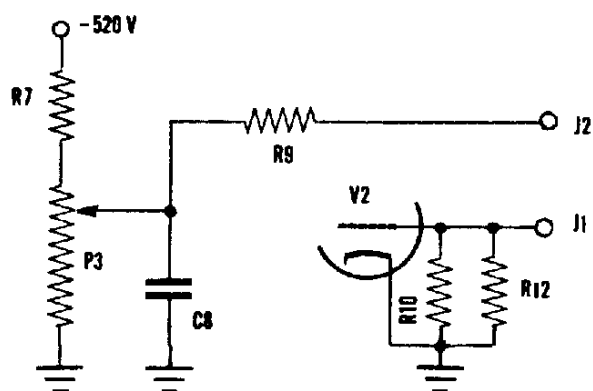

Fig. 7
- Fig. 7. Leakage check circuit in "PAPER-MICA TEST" position. R9 slows down charging process so that electron-ray tube action will not be too fast for detection by the operator.
- Fig. 8. Leakage check circuit in "ELECTROLYTIC TEST" position. Note that R11, 2.2 K Ω , provides reduced electron-ray tube sensitivity as compared to the circuit of Fig. 7.